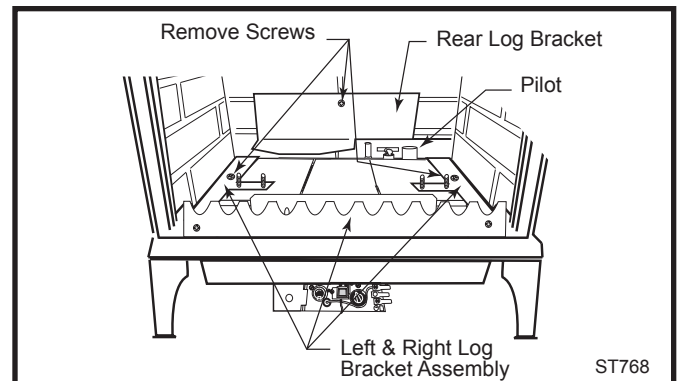
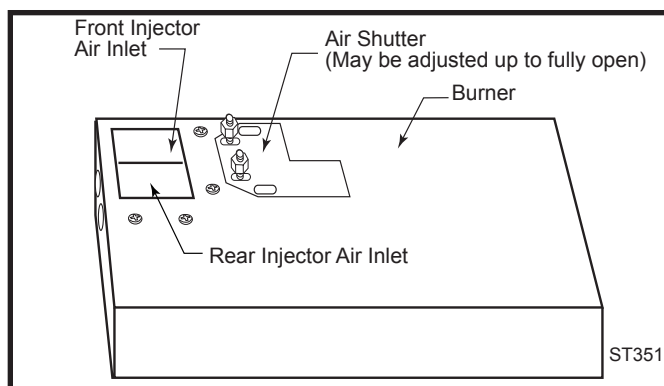

Fig. 37 Remove rear log bracket and left and right log bracket assembly.
Fig. 39 Air shutter adjusted.
5. Remove the rear log bracket by unfastening the screw. (Fig. 37)
6. Remove the right and left log bracket assembly by unfastening the two screws which hold the burner in place. (Fig. 37)
8. The air shutter is located on the bottom of the burner to the left. (Fig. 37) Unfasten the two nuts holding the shutter in place. The shutter may be adjusted between the factory adjusted 1/2" to fully open. Reassemble the shutter to allow the rear injector air inlet to close from the minimum 1/2" opening to fully open. (Fig. 39) You may have to try more than once to find the correct air shutter opening for best results depending on your altitude.